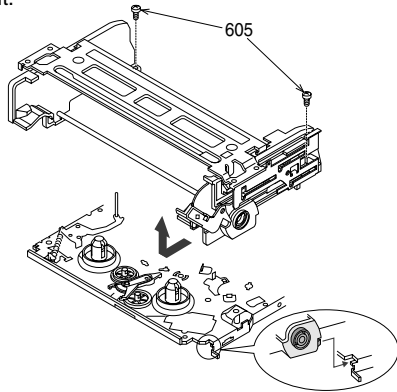

Fig. 3
- Undo 2 screws Pos. 605 (Fig. 3).
- Push the cassette compartment in the direction of the arrow (Fig. 3) and remove it.